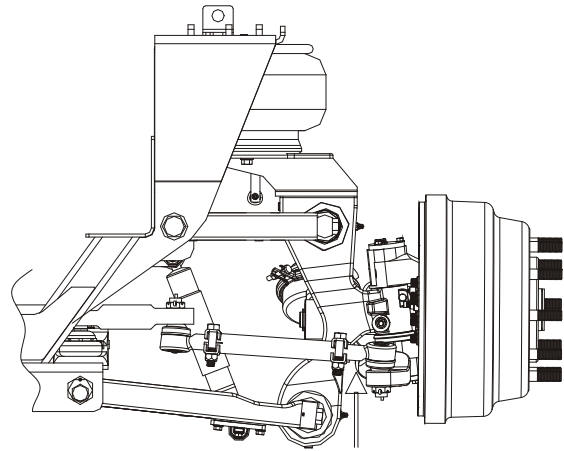

Figure 6 - Tie Rod
1. With the engine on, lightly rock the steering wheel and have an assistant observe any looseness in the two mating tapers or any movement of the stud nut at both ends of the tie rod. (**Figure 6**). If looseness is found in either place go to step 2, otherwise skip to step 3.
3. With the engine off and the wheels steered straight ahead, grab the tie rod near its end and try to move the socket in a direction parallel to the ball stud axis. (**Figure 6**). Be sure to only apply hand pressure to the tie rod.
6. Check tie rod clamp orientation (**Figure 6**)